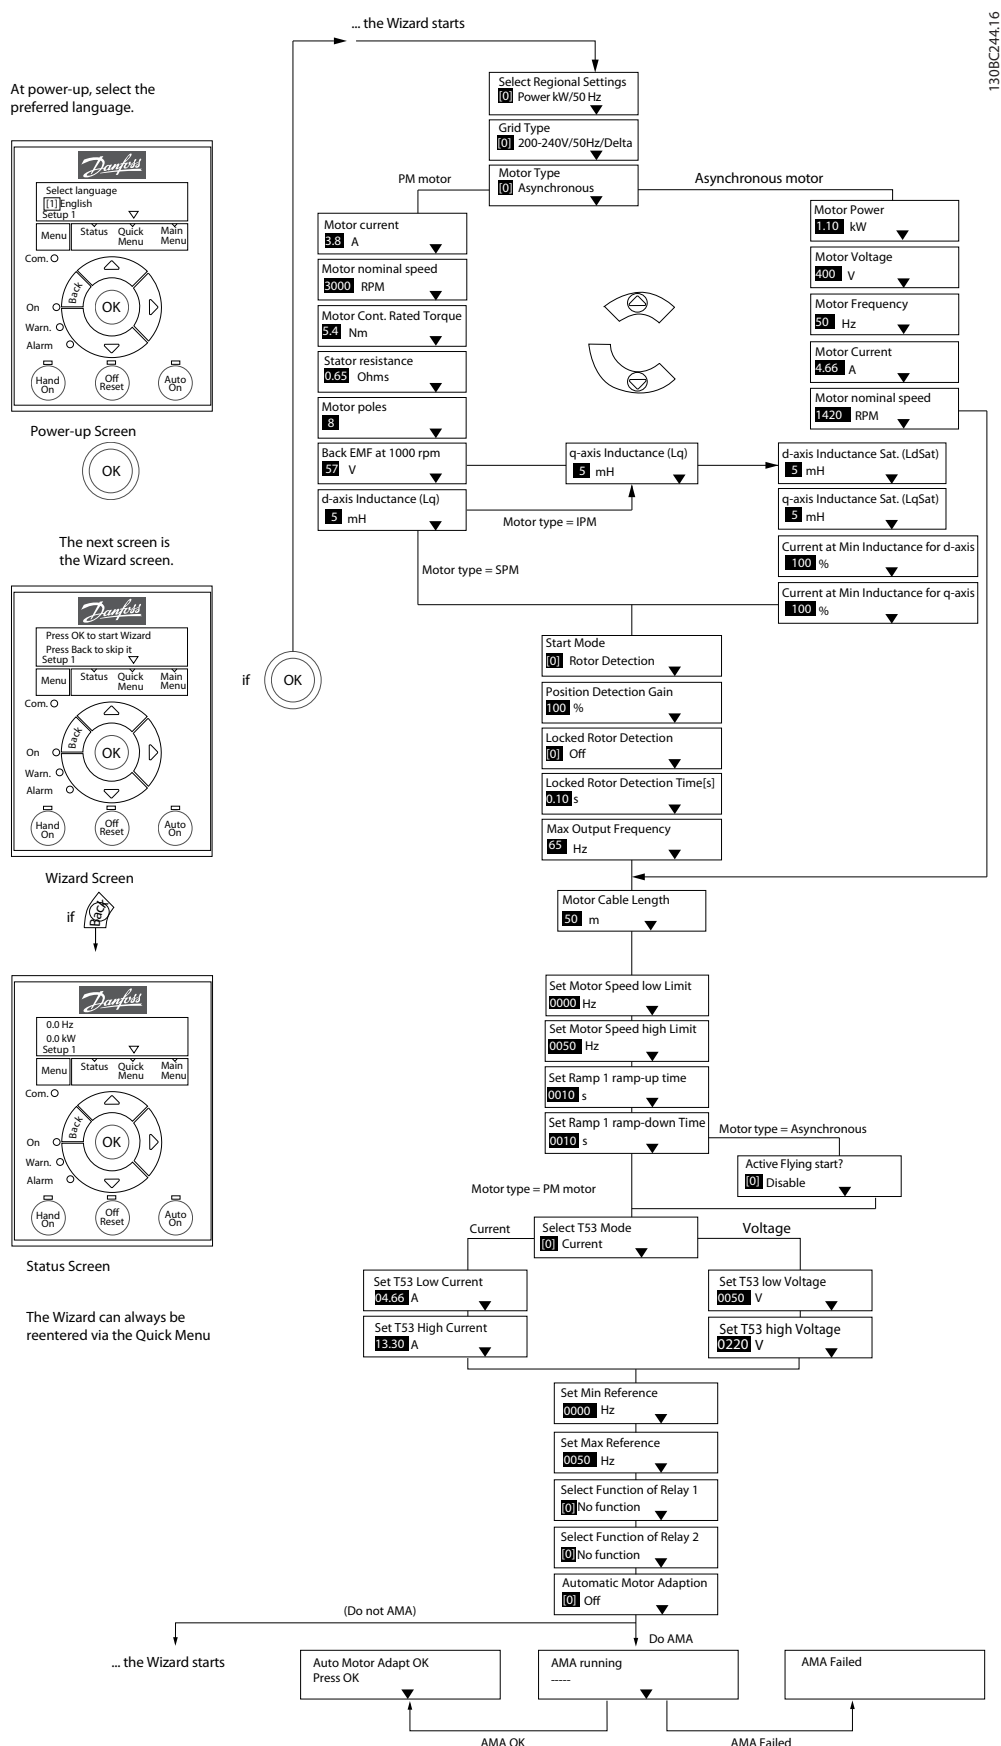

Figure 6.4 Set-up Wizard for Open-loop Applications
- Wizard for open loop applications. See *Figure 6.4* for details.